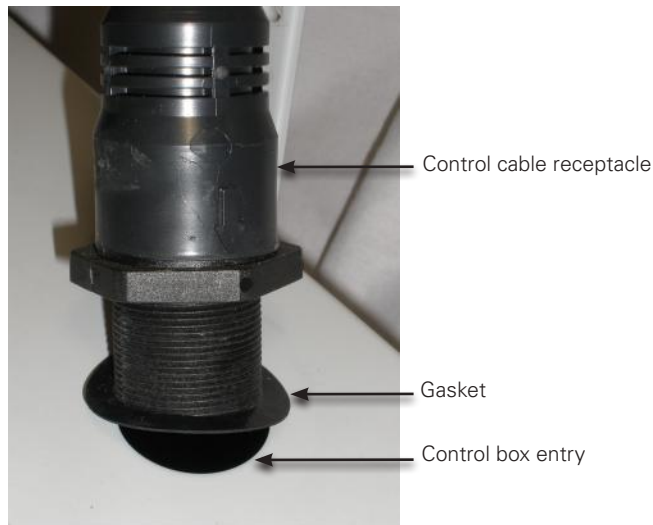

Figure 17. Installation of control cable.
2. With the gasket located around the outside of the entry hole, insert the threaded portion of the cable as shown in Figure 17.